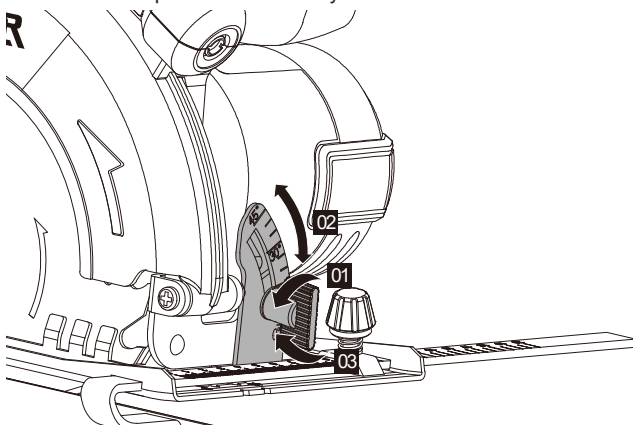

Figure 8
2. BASE PLATE ANGLE ADJUSTMENT (SEE FIG. 8)